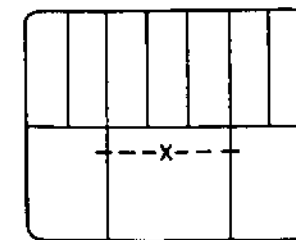

Fig. 5-13
- 3) Press one of the TRACKING buttons on the remote control until the "X" mark can be seen in the center position of the tracking range on the TV screen as shown in Fig.5-13.